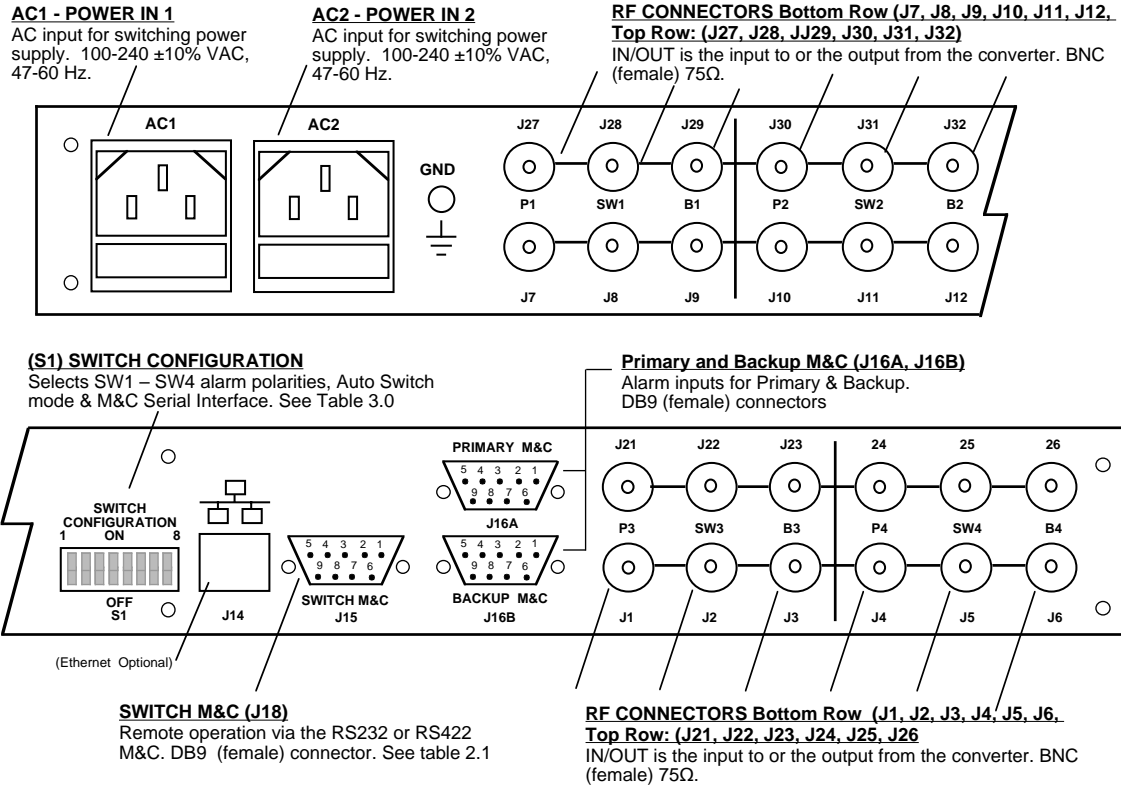

FIGURE 2.2 1582-421L Switch Rear Panel Inputs/Outputs
Figure 2.2 shows the input and output connectors on the rear panel.
4. Connect to signals on the MONITORS AND CONTROLS (DB9 connectors), J16A & J16B, as desired (see Figure 2.2, Table 2.1).